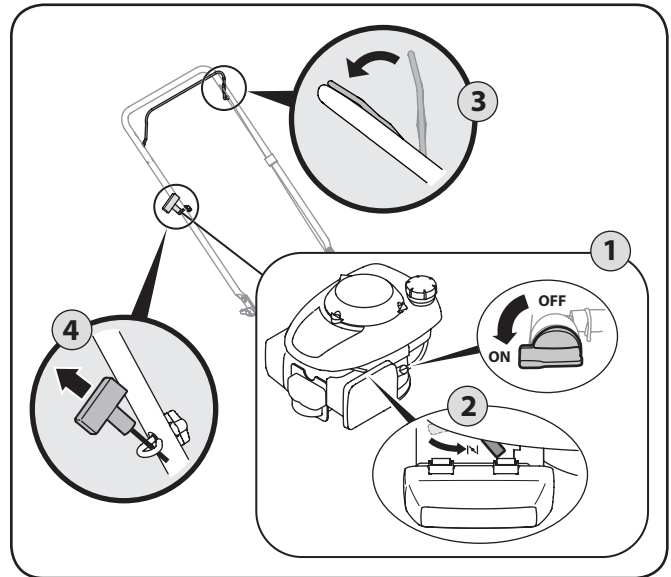

Figure 5-1
1. Place the fuel valve lever found on the left side of the engine into the ON (OPEN) position. See Figure 5-1.
4. Holding these two handles together firmly, grasp recoil starter handle and pull rope out with a rapid, continuous, full arm stroke. See Figure 5-1. Keeping a firm grip on the starter handle let the rope rewind slowly. Repeat until engine cranks. Let the rope rewind each time slowly.